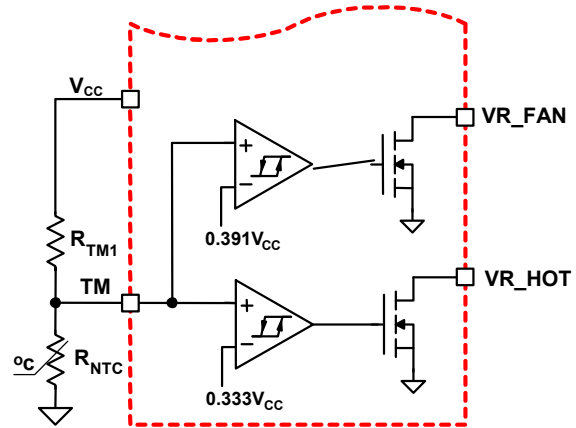
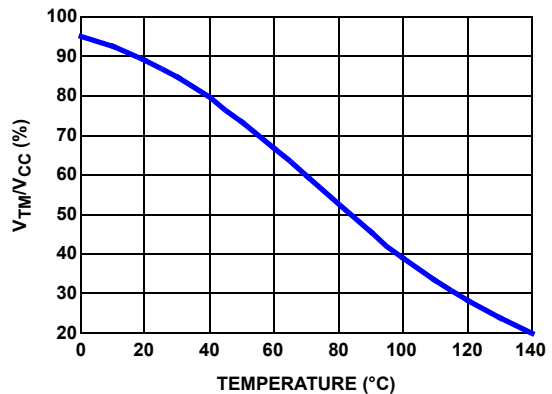

FIGURE 16. BLOCK DIAGRAM OF THERMAL MONITORING FUNCTION
FIGURE 17. THE RATIO OF TM VOLTAGE TO NTC TEMPERATURE WITH RECOMMENDED PARTS
The diagram of thermal monitoring function block is shown in Figure 16. One NTC resistor should be placed close to the power stage of the voltage regulator to sense the operational temperature, and one pull-up resistor is needed to form the voltage divider for the TM pin. As the temperature of the power stage increases, the resistance of the NTC will reduce, resulting in the reduced voltage at the TM pin. Figure 17 shows the TM voltage over the temperature for a typical design with a recommended $6.8\text{k}\Omega$ NTC (P/N: NTHS0805N02N6801 from Vishay) and $1\text{k}\Omega$ resistor RTM1. We recommend using those resistors for the accurate temperature compensation.
Based on V_{CC} voltage, ISL6334, ISL6334A converts the TM pin voltage to a 6-bit TM digital signal for temperature compensation. With the nonlinear A/D converter of ISL6334, ISL6334A, the TM digital signal is linearly proportional to the NTC temperature. For accurate temperature compensation, the ratio of the TM voltage to the NTC temperature of the practical design should be similar to that in Figure 17 on page 23.
1. Properly choose the voltage divider for the TM pin to match the TM voltage vs temperature curve with the recommended curve in Figure 17 on page 23.